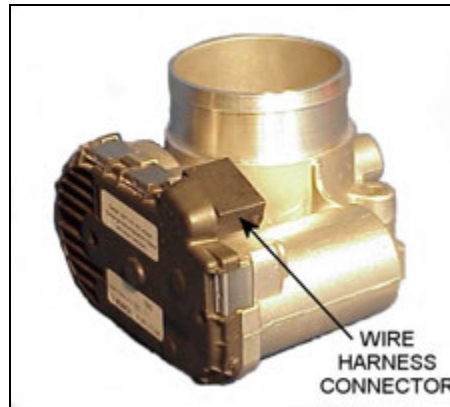
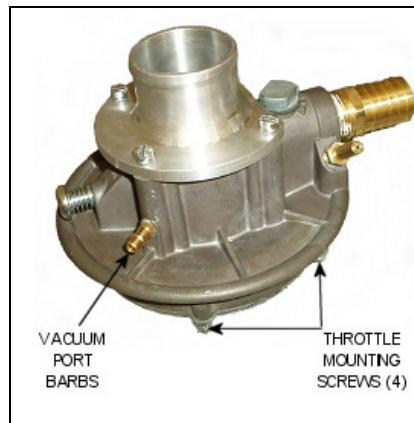

Figure 17. Wire Harness Connector on Throttle Body
Figure 18. Throttle Adapter Mount Screws and Vacuum Port Barb
5. Mark the two vacuum lines (1) to the mixer for identification, as they must be reinstalled correctly for proper operation. Remove the vacuum lines.
6. Remove fuel line (2) from the mixer inlet fitting.
7. Disconnect the wires leading to the electronic throttle body by pinching the lock tabs on either side of the wiring harness connector. (See **Figure 17** for location of connector.)
8. Loosen the lower hose clamp on the hose (3) between the mixer/adapter (4) and the throttle body (5).
10. Remove the four mounting screws that attach the throttle body adapter to the mixer (see **Figure 18**).
11. Remove the inlet fitting (6) from the mixer.
12. Remove the short vacuum port barb (7) from the mixer (see **Figure 18**).
1. Install the vacuum port barb onto the mixer (7).
2. Install the inlet fitting (6) onto the mixer.
3. Install the four mounting screws that attach the throttle adapter to the mixer. See **Figure 18**. Torque bolts to 30-40 lbf-in (3.39-4.52 N-m).
4. Place a hose clamp (3) onto the hose that is on top of the throttle body (5) and insert the barbed end of the mixer adapter (4) into the hose. Tighten the hose clamp to 30 lbf-in (3.39 N-m).
5. Install the fuel line (2) to the inlet fitting.
6. Install the two vacuum lines (1) to the mixer using the previous marks for identification. Vacuum lines must be installed correctly for proper operation.